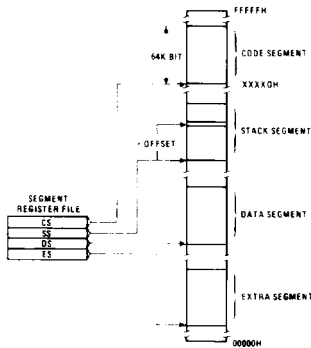

FIGURE 1. 80C86 MEMORY ORGANIZATION
The processor provides a 20 bit address to memory, which locates the byte being referenced. The memory is organized as a linear array of up to 1 million bytes, addressed as 00000(H) to FFFFF(H). The memory is logically divided into code, data, extra and stack segments of up to 64K bytes each, with each segment falling on 16-byte boundaries. (See Figure 1).